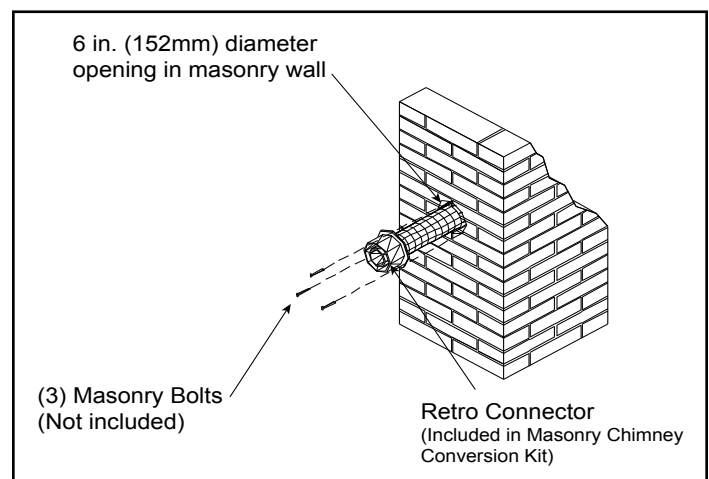

Figure 5.32
9. Attach the flex to the retro connector. Use three sheet metal screws to attach the flex liner to the connector (Figure 5.32). Mount the retro connector to the masonry wall using masonry bolts. Redrill larger holes on connector as needed. Be careful to ensure that the connector is centered in the opening and the mounting holes line up with the masonry wall.